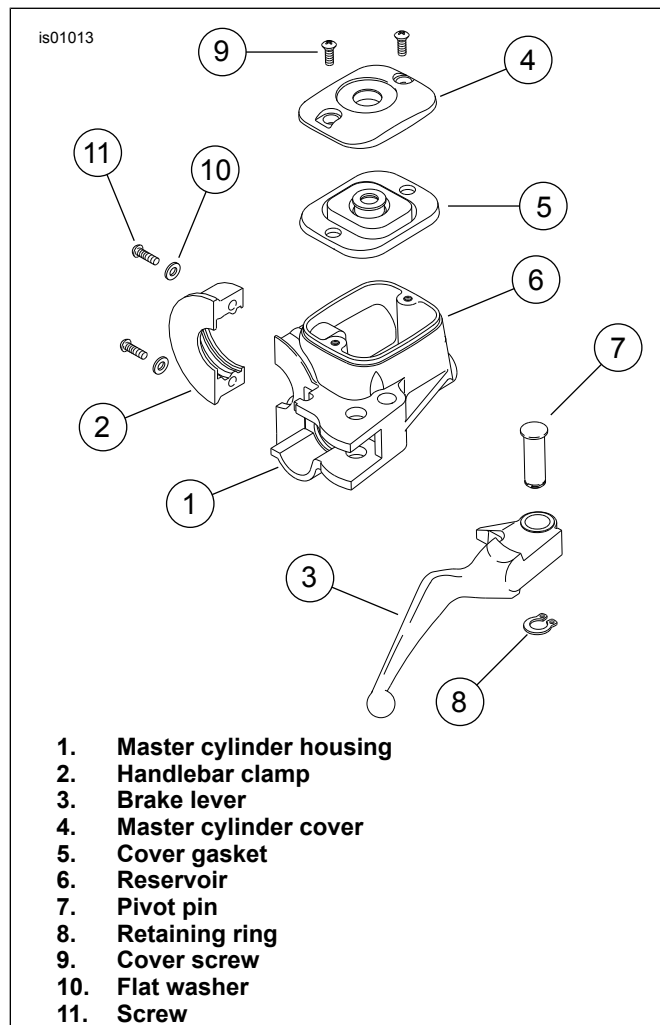

Figure 4. Brake Master Cylinder/Reservoir
1. See Figure 4. Align hole in brake hand lever (3) with hole in master cylinder housing (1). From the top of the assembly, slide pivot pin (7) through bracket and hand lever.
2. Install retaining ring (8) in pivot pin groove. Verify that retaining ring is completely seated in groove.
4. See Figure 4. Align the holes in the handlebar clamp (2) with those in the master cylinder housing and start the 2 screws (11) with flat washers (10). Position for rider comfort. Beginning with the top screw, tighten the screws to 7.9–9 N·m (70–80 in-lbs) using a T27 TORX® drive head.